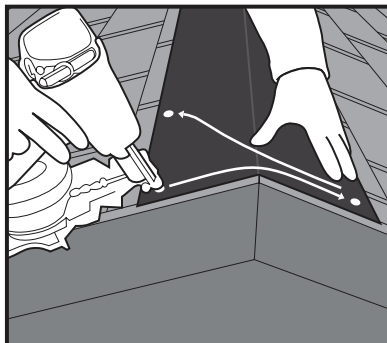

Fig. 3
- 3) Roll out the vent along the ridge, using the chalk lines for alignment. Remove any slack from the vent and nail the vent every 6 inches nailing from one side of the vent then the other. See Figure 3.